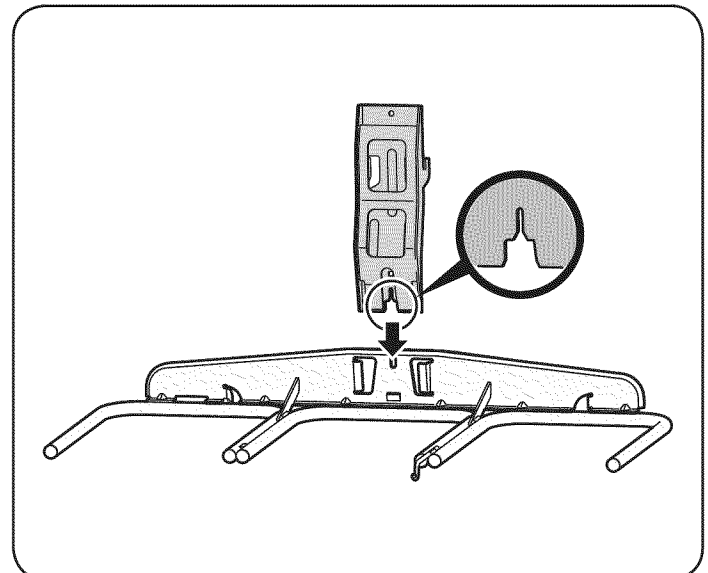
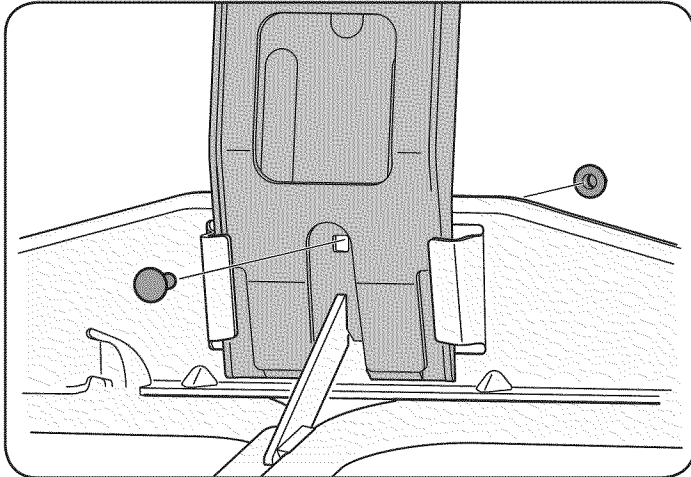

Figure 3
Figure 4
2. Insert the notched end of the vertical support bracket into the bin support assembly, as in Fig. 3, and secure with a carriage bolt (710-0276) and flange lock nut (712-04063) from hardware pack 689-00084 packed in with the upright support bracket. See Fig. 4.